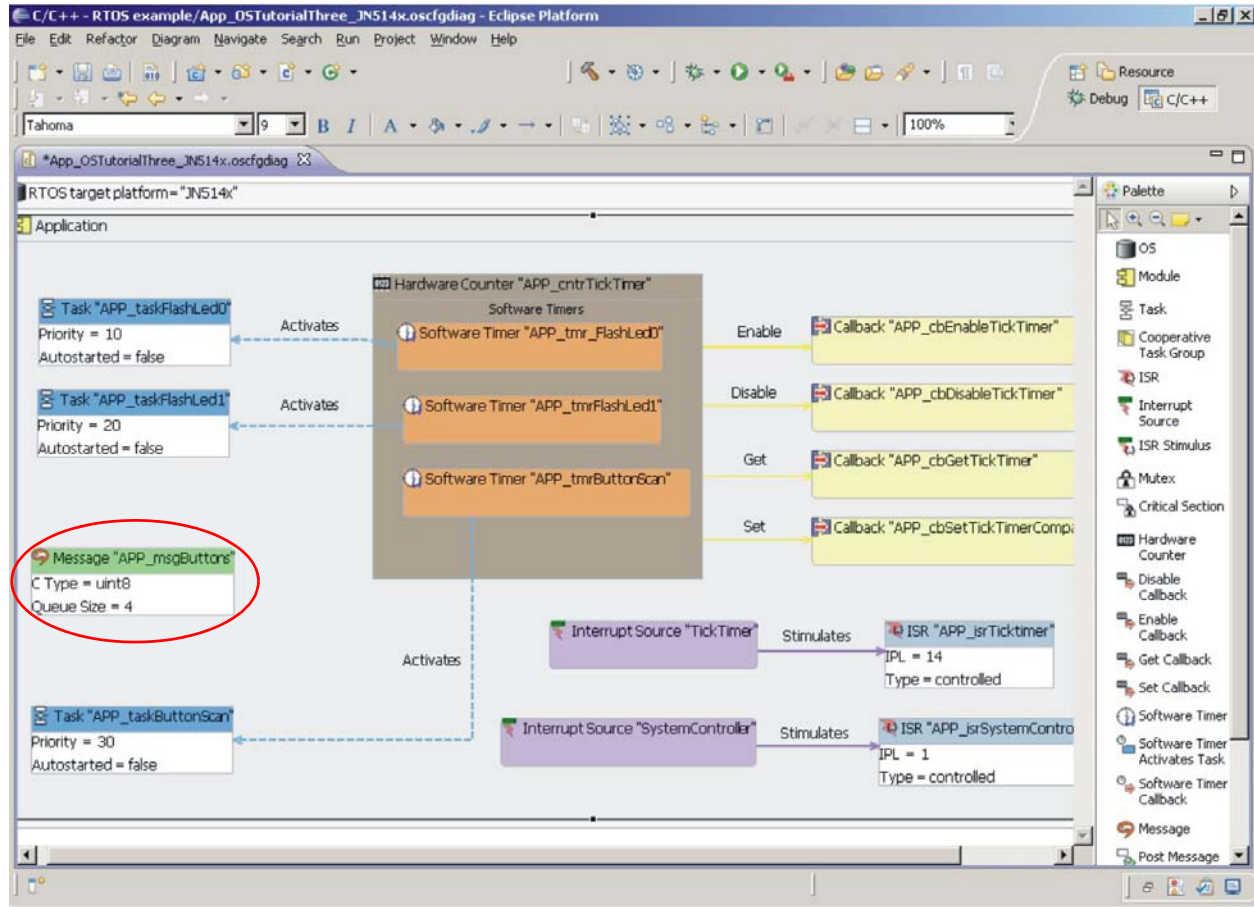

Figure 25: Message Element
Step 4 Select the **Message** icon to add a message element to the diagram, as shown in Figure 25 below.